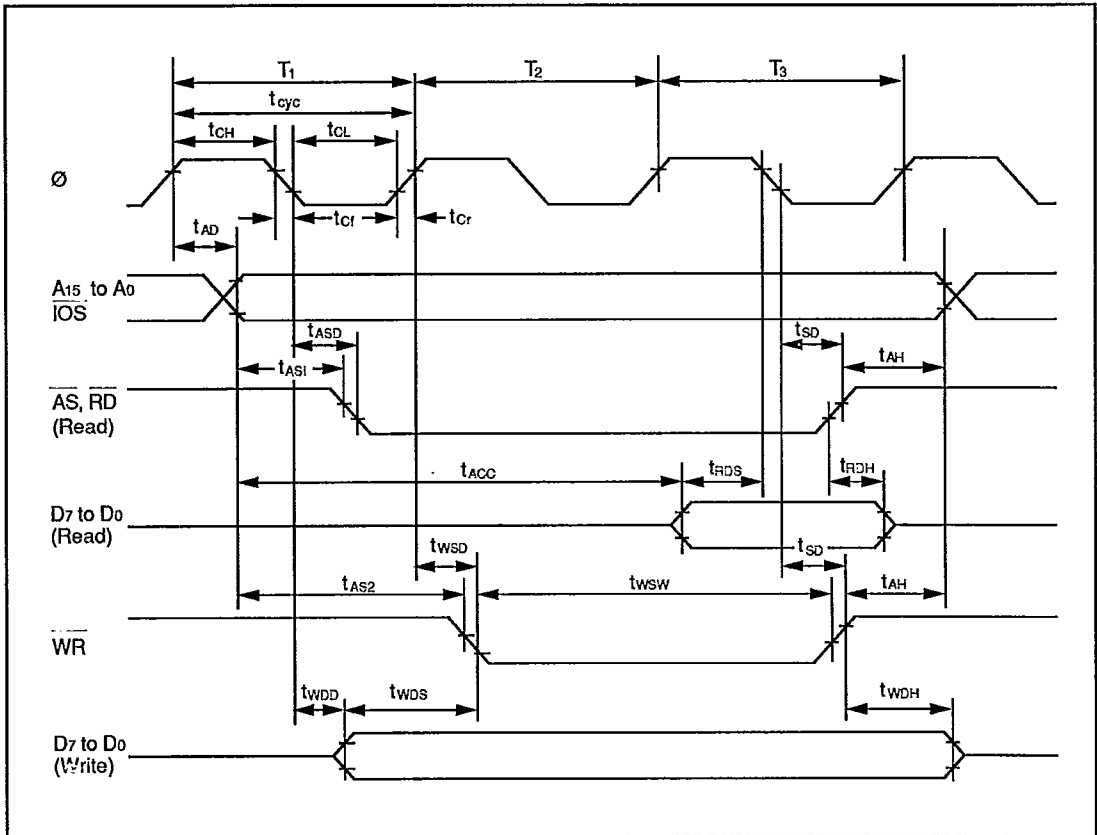

Figure 15-4. Basic Bus Cycle (without Wait States) in Expanded Modes
- 15.3.1 Bus Timing Figures 15-4 to 15-6